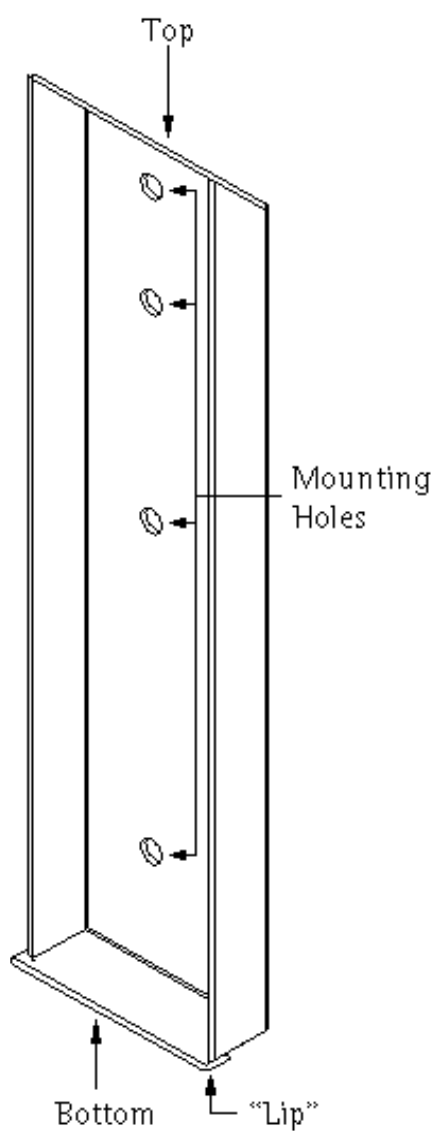

Figure 1. Backplate Mount
- NOTE:** Be sure that the end of the back plate that has a “lip” is pointing down (Figure 1).